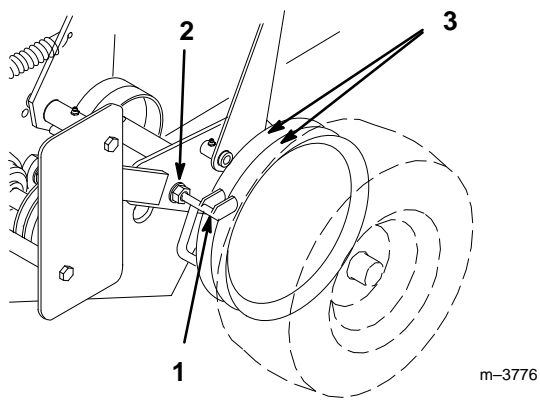

Figure 48
1. Loosen the locknut holding scraper to the engine frame (Fig. 48).
2. Rotate scraper until they align with center of pulley grooves (Fig. 48).
3. Tighten the locknut (Fig. 48).